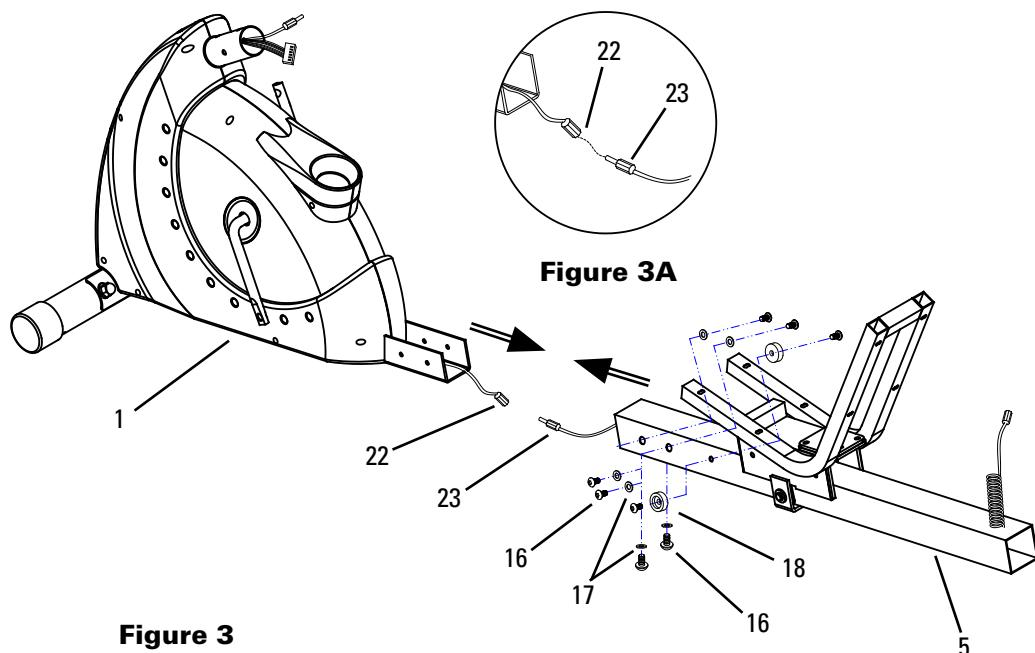

Figure 3
3-2: Slide the Rail Tube Assembly (5) onto the Main Frame (1) and attach using 6 Hex Screws (16) and 6 Flat Washers (17) as shown in Figure 3.